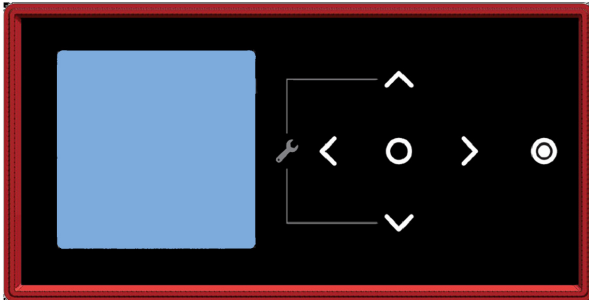

Fig. 4: CTRLMax Navigation Control
1. Touch simultaneously on the up and down soft keys for 3 seconds to access the functions for the installer. See Fig. 4.